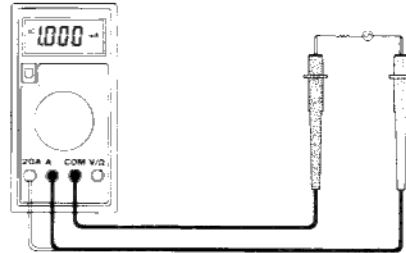

Fig. 5-5 AC Current Measurement
- Turn the Rotary switch to the AC A range to be used and connect the test lead in series with the load under measurement. See Figure 5-5.